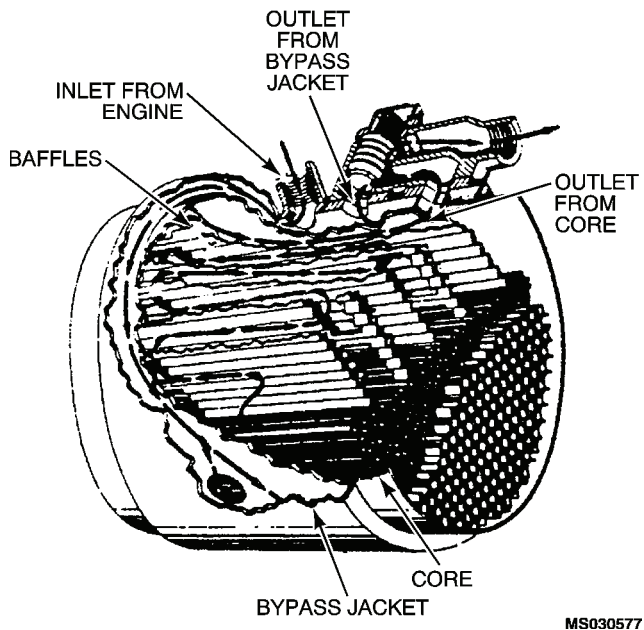

Figure 3-10. Reciprocating Engine Oil Cooler.
(1) Reciprocating engine oil coolers. This oil cooler, as shown in figure 3-10, is either cylindrical or elliptical in shape. It usually consists of a core enclosed in a double-walled shell. The core is built of copper or aluminum tubes. Cooling air passes through the tubes while the oil flows around the outside of the tubes. This cools the oil for return to the engine. A bypass route is followed by the oil when the core is blocked or oil is cold.